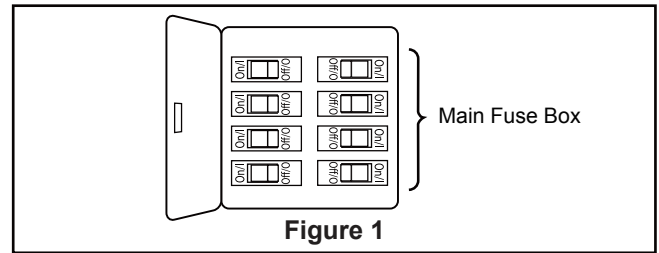
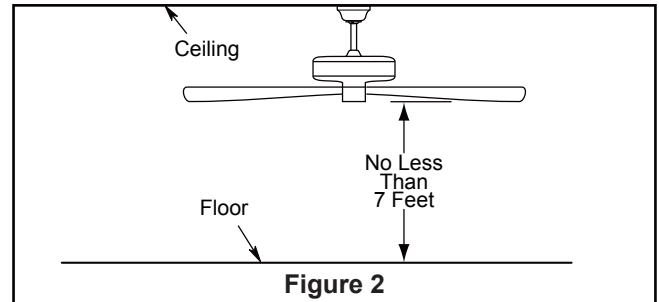
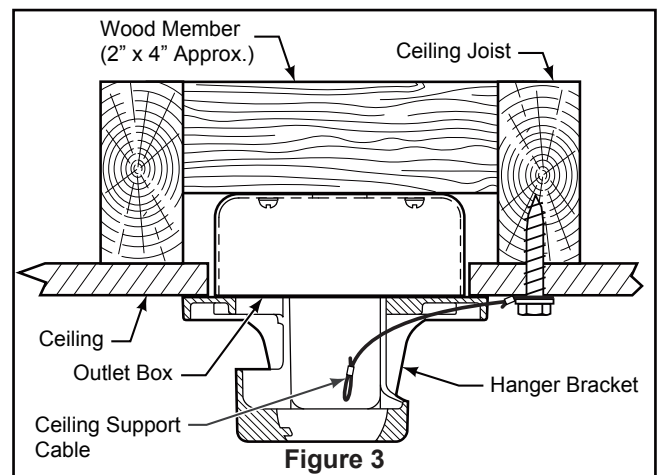

Figure 1
Figure 2
Figure 3
Your new ceiling fan will require a grounded electrical supply line of 120 volts AC, 60 HZ, 15 Amp Circuit. Electrical code requires use of a fan-rated outlet box to support the extra weight and motion associated with a ceiling fan. A fan-rated box will be labeled as such and typically supports up to a 70lb ceiling fan. Fan-Rated Outlet Boxes vary in ratings and design. Ensure the ratings of your ceiling fan outlet box meet the requirements for the ceiling fan being installed. Figure 1, Figure 2 and Figure 3 depicts different structural configurations that may be used for mounting the outlet box.
Low profile box (Figure 1)
Deep box (Figure 2)
Deep box with brace (Figure 3)
1. Remove the hanger ball portion from the downrod/hanger ball assembly by loosening the set screw in the hanger ball until the ball falls freely down the downrod. Remove the pin from the downrod, then remove the hanger ball. Retain the pin and hanger ball for reinstallation in Step 6. (Figure 1)
2. Remove the hairpin clip and clevis pin from the bottom of the downrod. Retain the pin and clip for reinstallation in Step 4. (Figure 2)
3. Loosen the two set screws and locking nuts in the downrod support of the motor assembly. Route the brown, blue, red, gray, yellow wires and safety cable through the downrod. (Figure 3)
To avoid possible fire or shock, be sure electricity is turned off at the main fuse box before hanging. (Figure 1)
The fan must be hung with at least 7' of clearance from floor to blades. (Figure 2)
1. Securely attach the hanger bracket to the outlet box using the outlet box screws and washers supplied with the outlet box. (Figure 3)
2. Drill a 1/4" pilot hole into the building structure to prevent splitting or cracking with installation of the lag bolt. Using the 3/8" x 2" lag bolt and flat washer, attach safety cable to ceiling joist or wood structural member. The lag bolt will pass through the flat washer, safety cable loop, and into the building structure. (Figure 3)
NOTE: Ceiling support cable cannot be secured to outlet box only, it must be directly secured to ceiling joist or structural member using the 3/8" x 2" lag bolt and flat washer. (Figure 3)
- 1. To set the code on receiver unit, slide dip switches to the same positions as set on the remote control. (Figure 1)
To avoid possible electrical shock, be sure electricity is turned off at the main fuse box before wiring. (Figure 2)
- 2. Slide the receiver into the hanger bracket before wiring as shown in figure 3.
2. Securely attach and tighten the canopy screw cover over the shoulder screws in the hanger bracket utilizing the key slot twist-lock feature. (Figure 2)
2. Remove one of the three screws in the support bracket at the bottom of the motor assembly and retain the screw for later and slightly loosen the remaining two screws. (Figure 2)
3. Assemble the light plate assembly to the support bracket using the two key slots in the light plate assembly. Replace the previously removed screw and securely tighten all three screws. (Figure 3)
2. Restore electrical power to the outlet box by turning the electricity on at the main fuse box. (Figure 2)
3. Remove the battery cover from remote control by screwdriver and retain the screw for later. (Figure 3)